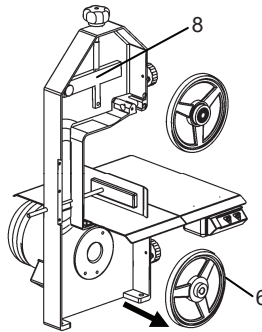

Fig. 7.7.5
- Slacken screw fixture 5 by turning it anticlockwise, with both hands grip pulley "6" and pull it towards yourself as illustrated in fig. 7.7.5 and clean with a sponge soaked with a pH 7 neutral detergent.